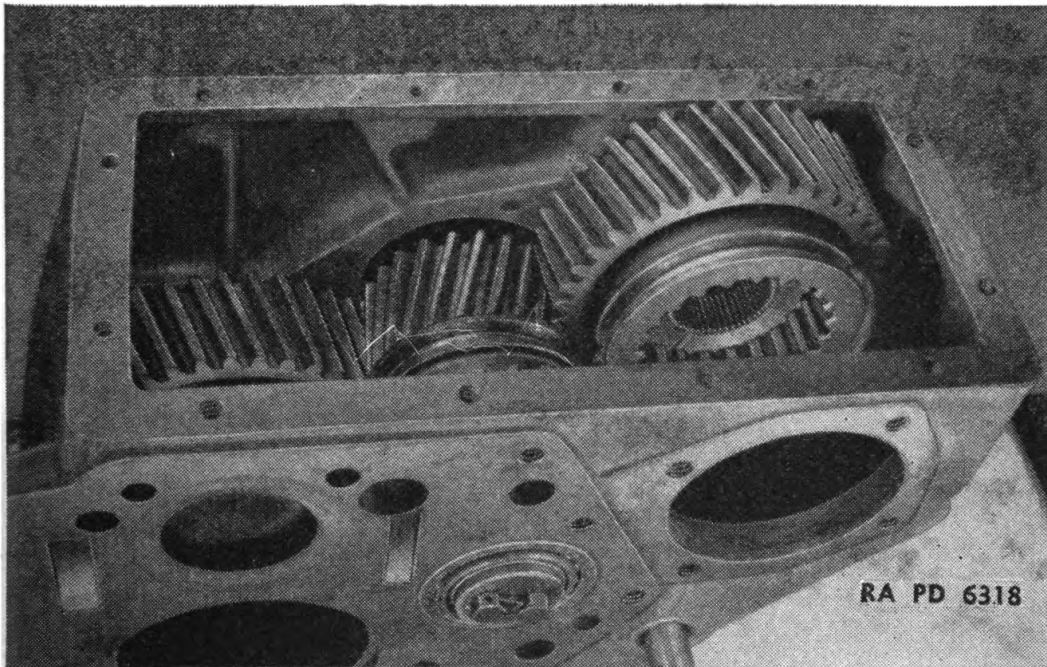

FIGURE 135.—Transfer case front-drive shaft gear replacement.
(11) Replace intermediate shaft rear bearing cap—brass drift, hammer,  $\frac{5}{8}$ -inch socket wrench. Replace bearing cup in rear bearing cap and assemble bearing cap and shims to case with four cap screws and lock washers.
(12) Replace intermediate shaft front bearing cup—brass drift, hammer. Set cup in place and tap until almost flush with case.
(13) Replace front-drive shaft gear needle bearings. Grease bore of gear with heavy grease and install 106 short needle bearings in two rows with spacer between (fig. 135).
(14) Replace front-drive shaft. Assemble front-drive shaft collar with front-drive shaft gear. Shoulder of collar sets into recess in